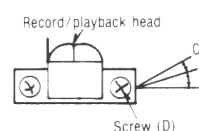
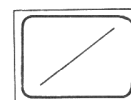

Fig. 5
Fig. 8
Adjust screw (D) in fig. 5 for maximum output L-CH and R-CH levels.
- Turn screw (D) shown in fig. 5 to find angles A and C (points where peak output levels for left and right channels are obtained). Then, locate angle B between angles A and C, i.e., point where L-CH and R-CH outputs are balanced. (Refer to figs. 5 and 6.)
- Playback the 8kHz signal from the test tape (QZZCFM). Adjust screw (D) shown in fig. 5 so that pointers of the two EVMs swing to maximum and a lissajous waveform as illustrated in fig. 8 is obtained on the oscilloscope.